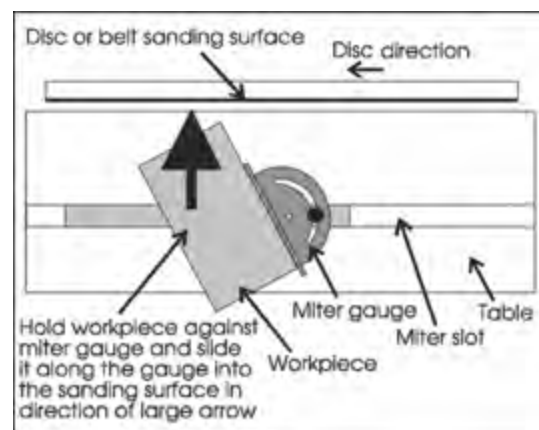

Figure 13: Use of the miter system
When grinding a compound angle, you should always check the accuracy of your setup by sanding a piece of scrap material before doing any finish sanding on the actual workpiece. When using the disc, always keep work piece left of center, as shown in Figure 13.
3. Place the workpiece against the miter reference surface and slide it along the reference surface and into the sanding disc or belt. The basic method is shown in Figure 13, below.